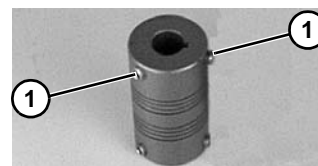

Figure 11
Coupling has two (2) set screws (**Figure 11, item 1**).